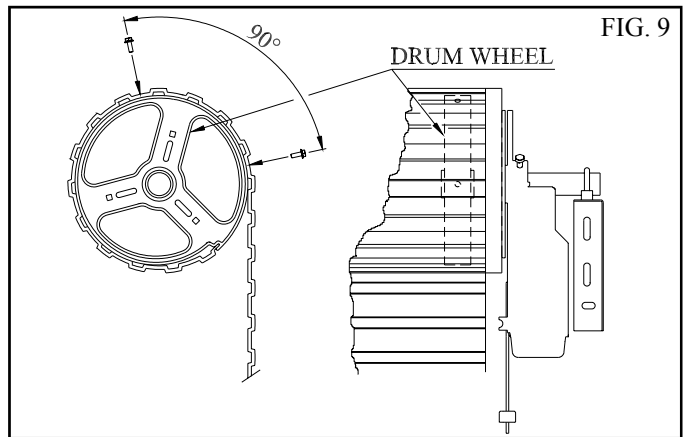

FIG. 9
1. With the door in the fully closed position mark the curtain (Fig. 9) on both ends of the door.
2. Open door slightly to have access to the marked positions. Secure the curtain to drum wheel using self drilling screws (two on each end). The screws should be at least 90 degrees apart (Fig. 9).